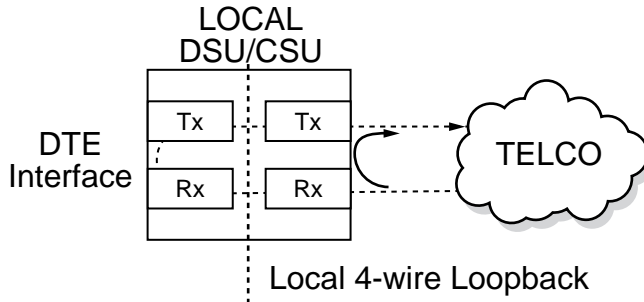

Figure 6-8
The Loop Only (RT) test allows the loop interface and a major portion of the DTE interface for the local DSU III AR Rackmount to be tested from the remote site over the actual communication circuit. Figure 6-8 illustrates the loopback point and the signal paths for this test.